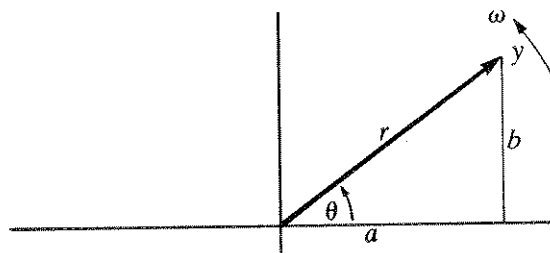

Fig. 10.2 Representation of Vector Quantity
**Theory.** A quantity which varies sinusoidally can be represented as a vector  $y$  rotating at a constant angular velocity  $\omega$ , as shown in Fig 10.2
As can be seen from Fig 10.2: